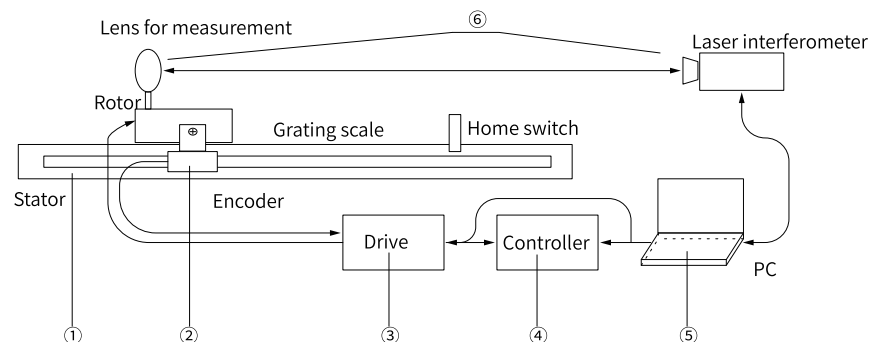

Figure 12-8 Structure of accuracy compensation table
1. Acquire the accuracy compensation data table, as described in “Figure 12-8” on page 491. The accuracy compensation data table includes the linear motor ①, encoder ②, drive ③, controller ④, PC ⑤, and laser interferometer with matching measurement lens.